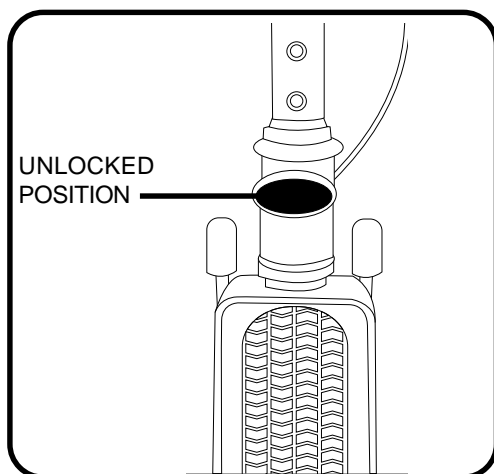
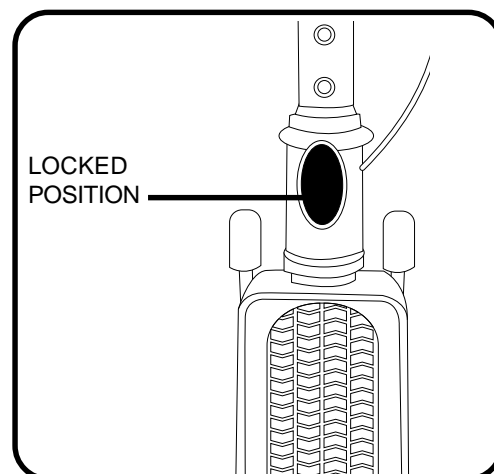

Figure 12. Tiller Lock Knob (Unlocked)
Figure 12A. Tiller Lock Knob (Locked)
1. From the unlocked position (see figure 12), lock the front wheel by pushing the tiller lock knob in and turning it clockwise 90°. See figure 12A.
9. Unlock the front wheel by turning the tiller lock knob 90° anticlockwise. **See figure 12.**